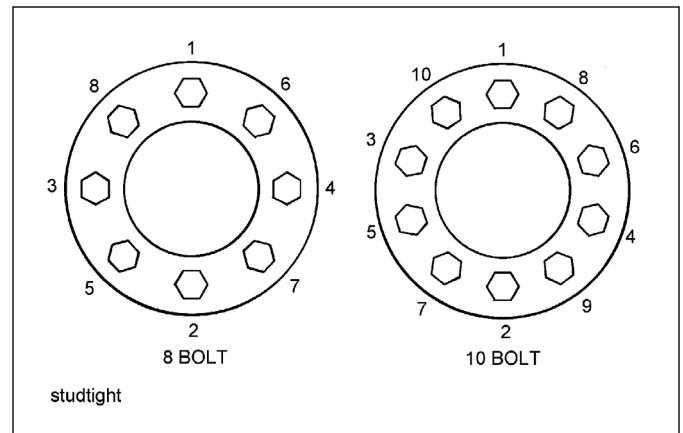

Figure 4-20: Stud Tightening Sequence
4. Install the flange nut and tighten to 50 ft-lbs using the sequence in Figure 4-20. Then tighten to full torque of 500 to 550 ft-lbs.
Improper tightening sequence	Follow proper tightening sequence (See Figure 4-20. )